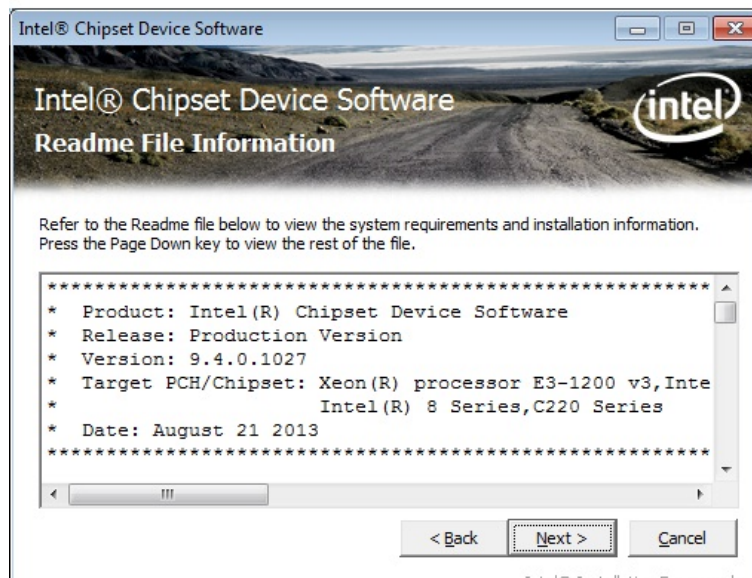

Figure 6-3: Chipset Driver Read Me File
Step 9: The **Read Me** file in **Figure 6-3** appears.